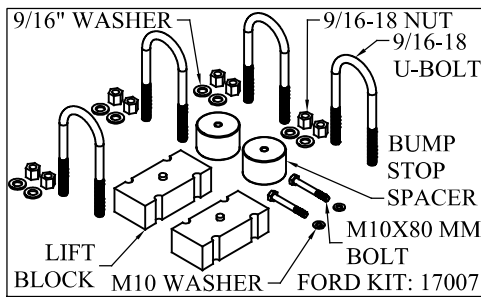

Figure 1: Part Identification (Ford).
1. **Verify** kit (Figures 1 and 2, Table 1).